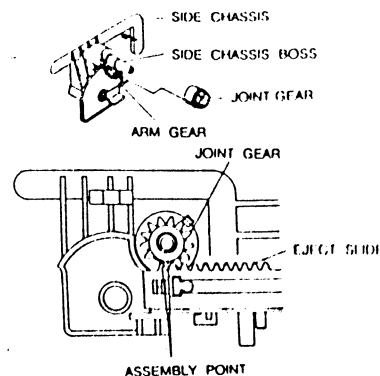

Fig. 20 Joint Gear, Arm Gear and Eject Slide Assembly
2. Assemble the joint gear with the eject slide as Fig.20.